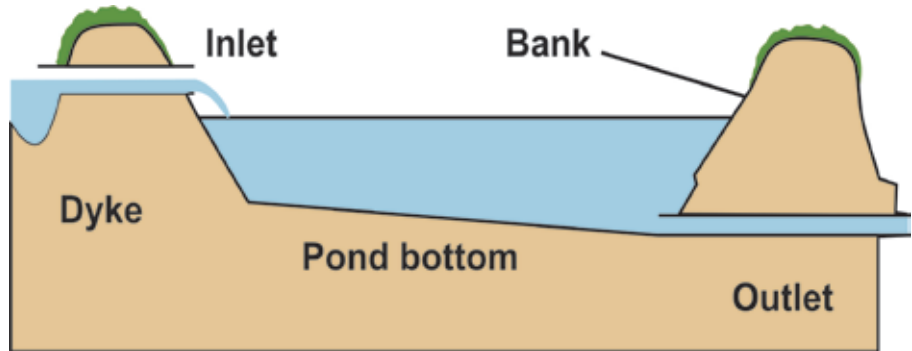

Figure 7. Slope at Pond Bottom
- For large ponds, it is impossible to remain within the 2% slope limit and at the same time stay within the recommended water depths. In these circumstances, the shallow end of the pond can be almost flat and then the slope can begin to increase going towards the drain. This fulfills the need to encourage the fish to follow the water down and will also allow for sufficient water depth in the shallow end. See figure 7.